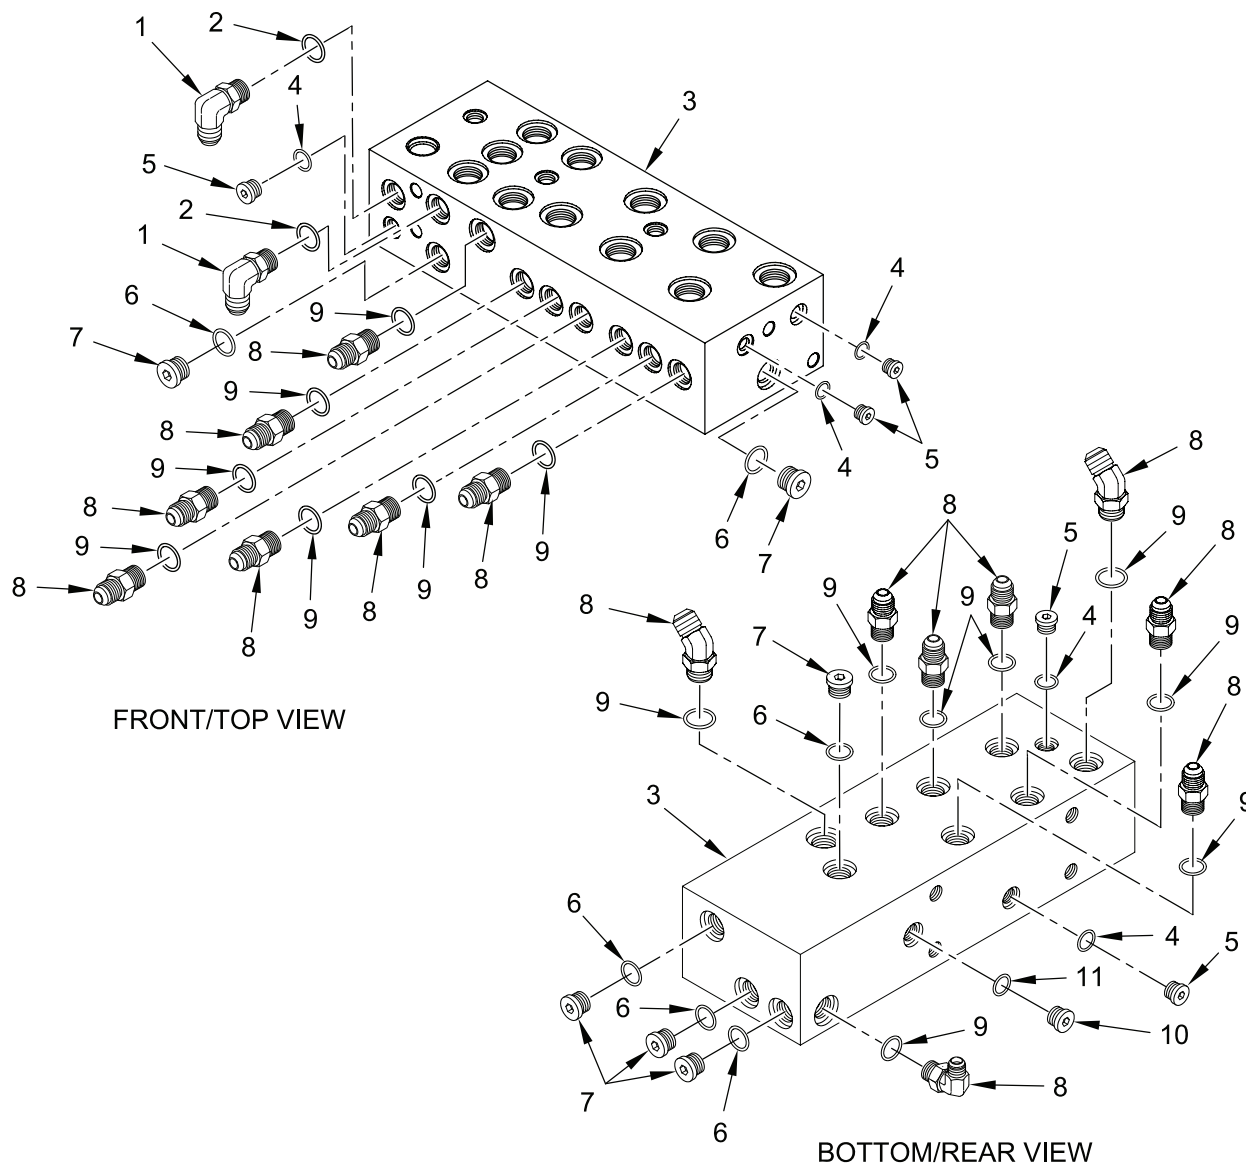

Figure 1. Removing Adapters and Plugs From Primary Manifold
1. Remove 15 adapters (Figure 1, item 8), 15 o-rings (Figure 1, item 9), two adapters (Figure 1, item 1), and two o-rings (Figure 1, item 2), from primary manifold (Figure 1, item 3). Discard o-rings.
2. Remove five plugs (Figure 1, item 5), five o-rings (Figure 1, item 4), plug (Figure 1, item 10), o-ring (Figure 1, item 11), six plugs (Figure 1, item 7), and six o-rings (Figure 1, item 6) from primary manifold (Figure 1, item 3). Discard o-rings.